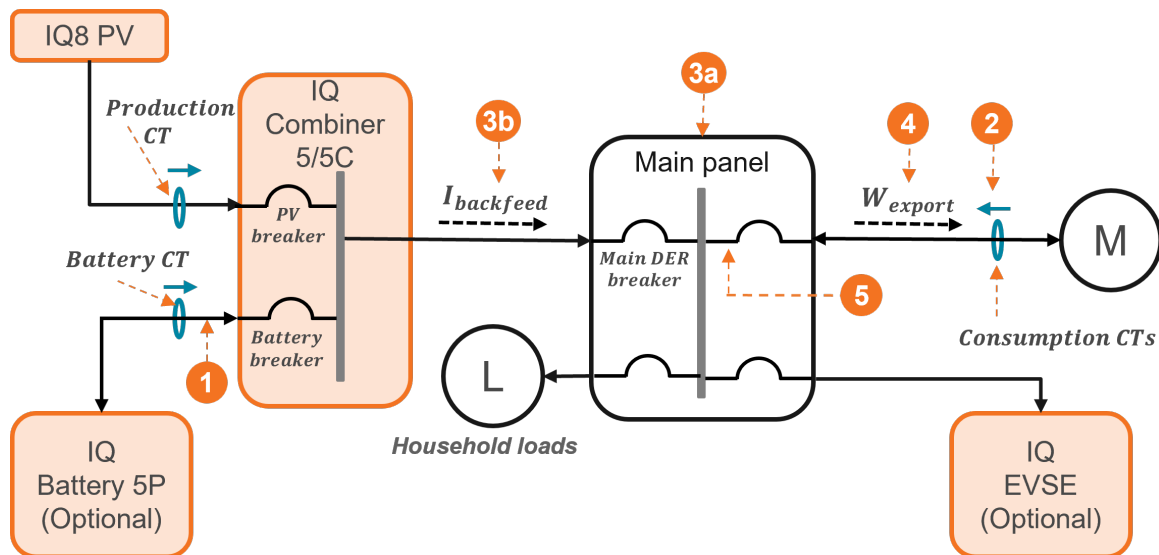

Figure 1: Example of an Enphase Energy System in the grid-tied configuration
- Busbar Overload Control (3a in Figure 1: Example of an Enphase Energy System in the grid-tied configuration on page 6): This feature reduces the system payback period by allowing maximum renewable energy generation and helps avoid the cost of panel upgrade for a large PV and battery systems.
- Feeder Control (3b in Figure 1: Example of an Enphase Energy System in the grid-tied configuration on page 6): This feature enables avoiding the cost of a panel upgrade for a large PV and battery system.
5. IQ EVSE main breaker trip avoidance (MBTA): This feature enables the installation of more powerful IQ EVSE to charge the electric vehicle (EV) by avoiding service upgrades and main service breaker trips when home loads are extremely high.
Figure 1: Example of an Enphase Energy System in the grid-tied configuration on page 6 provides a birds-eye view of the point of current being measured and limited using Enphase Power Control for each feature.